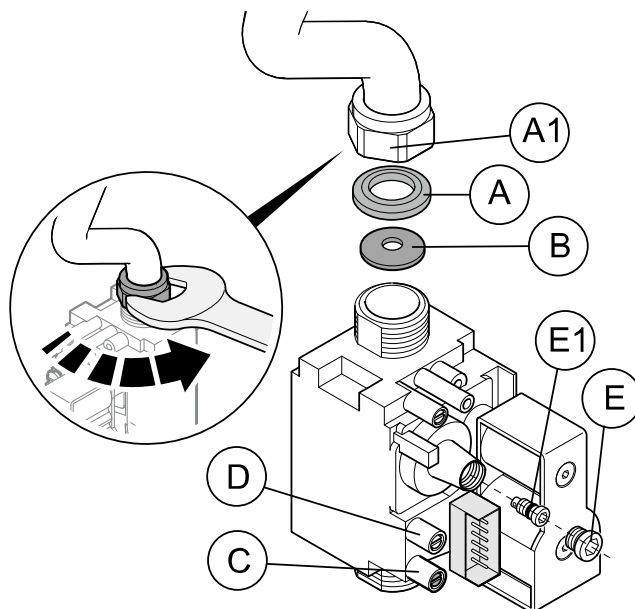

Figure 1
I.3 Gas valve adjustment (refer to Figure 1)